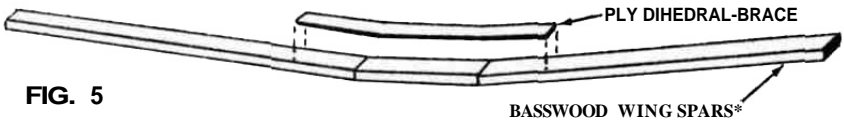

FIG. 5
11. Make up the wing spars (see Figure 5) as follows: Take the 1/4" x 3/8" and 1/4" x 1/4" basswood spars and cut two 8" lengths of each size. Glue these in the center of ply parts D-1 and D-2. Then glue long spars to each side at the same angle as the ply parts, over the plan sheet #1. Construct four such spars: two from 1/4" x 3/8" and two from 1/4" x 1/4". It will help to pin these to the board right next to each other while they dry, so as to have identical angles on all sets.